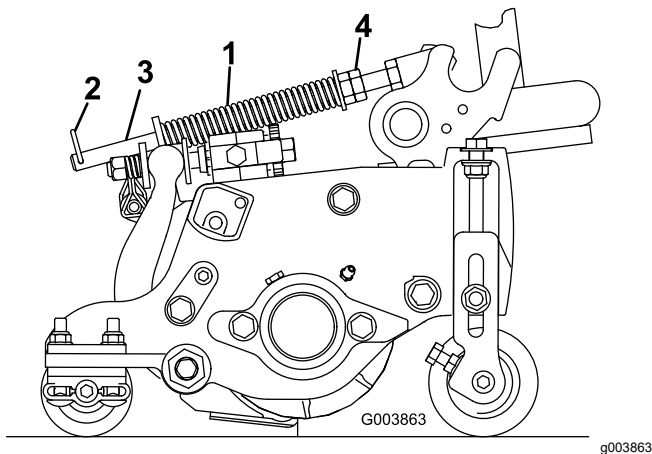

Figure 48
The turf-compensation spring (Figure 48) transfers the weight from the front roller to the rear roller. This helps to reduce a wave pattern in the turf, also known as marcelling or bobbing.
1. Make sure that the hairpin is installed in the rear hole in the spring rod (Figure 48).
2. Tighten the hex nuts on the front end of the spring rod until the compressed length of the spring is 15.9 cm (6.25 inches); refer to Figure 48.